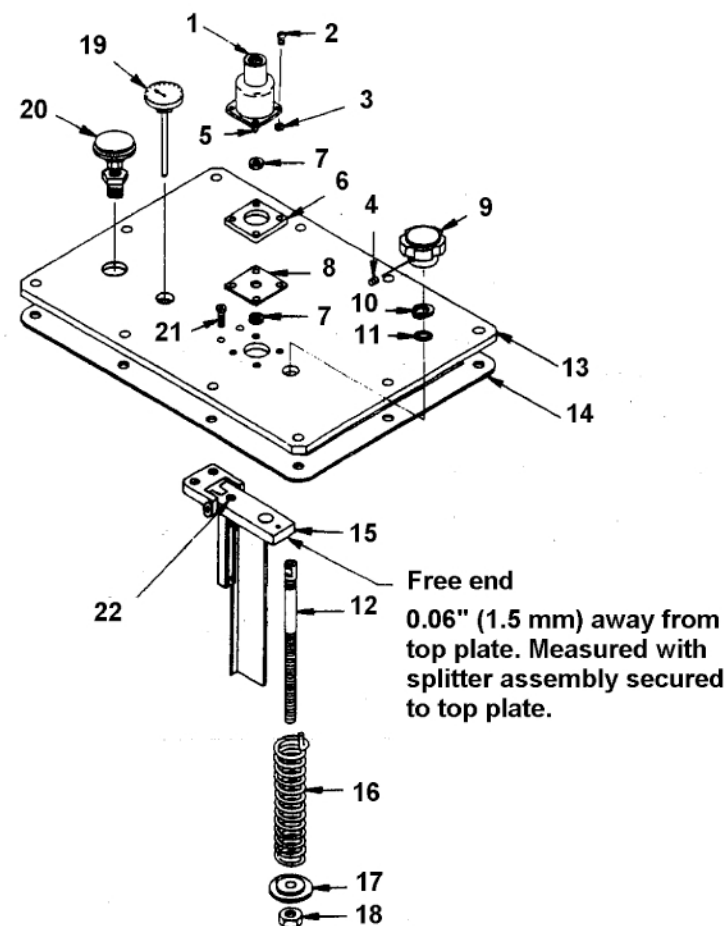

Figure 4. Top Plate and Controls
2. Remove top plate (13, Figure 4) from housing.
- c. Make sure the oil pump sprocket (43) set screw is tight.
- d. Make sure the motor shaft sprocket (42) set screw is tight.
6. Check position of splitter adjustment set screw (22, Figure 4). The end of this set screw provides a cone-shaped seat for the pressure control pointer (5). If the pointer is not resting in the center of the set screw cone, reposition the pointer. The free end of the splitter arm should be .06 inches (1.5 mm) away from top plate.
NOTE: Diaphragm can be replaced without removing the top plate. Replacement is only necessary if oil is leaking out during operation. (Refer to Figure 4)